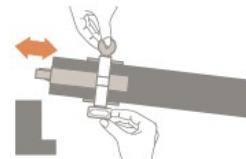

Figure 7 - Check the cylinder operates smoothly
14. With the door open, first check the cylinder operates smoothly from both sides by using the key/thumb turn, as appropriate (Figure 7).